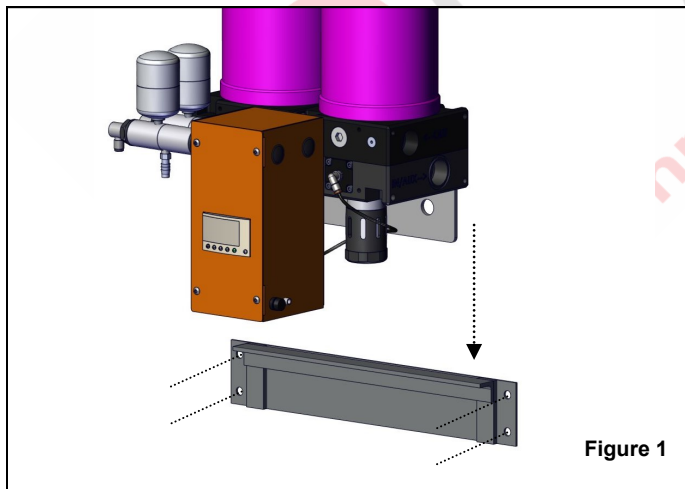

Figure 1
2. Using the appropriate hardware (not included), mount dryer bracket to wall. Figure 1
3. Once the wall bracket has been properly secured to the wall, place the dryer mounting rail into the slot(s) of the wall bracket. Figure 1